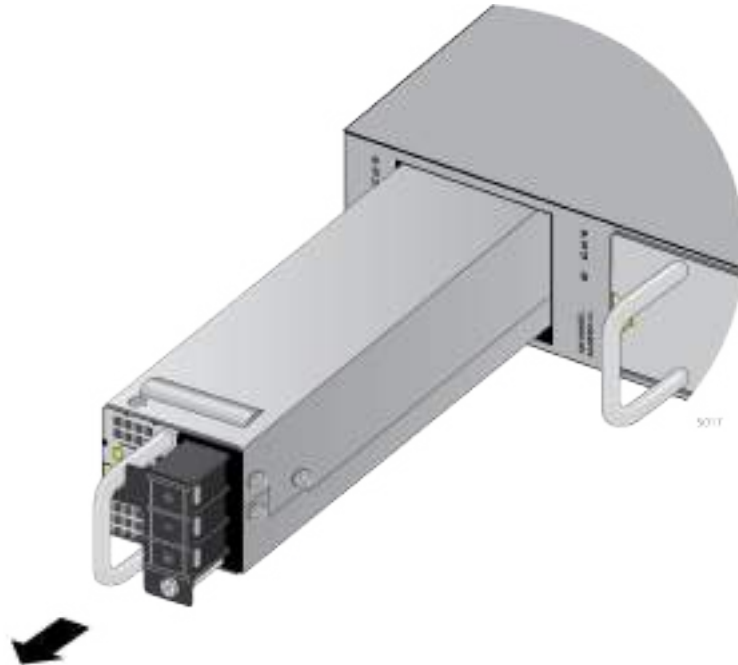

Figure 137. Removing a DC Power Supply
8. Carefully slide the power supply from the switch. Refer to Figure 137 on page 194.